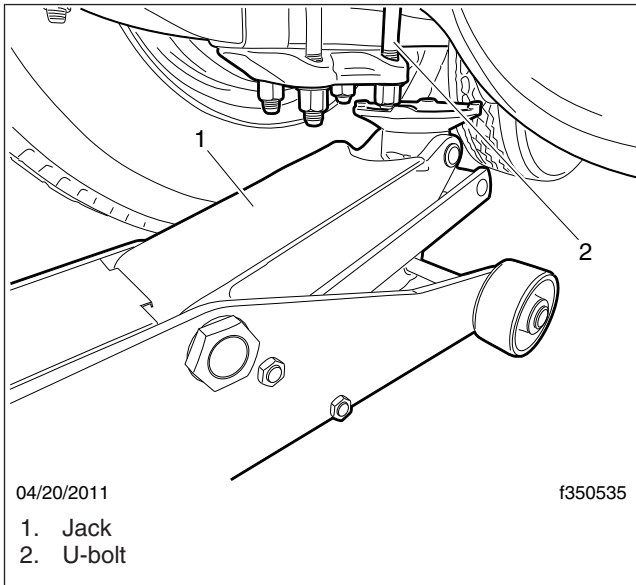
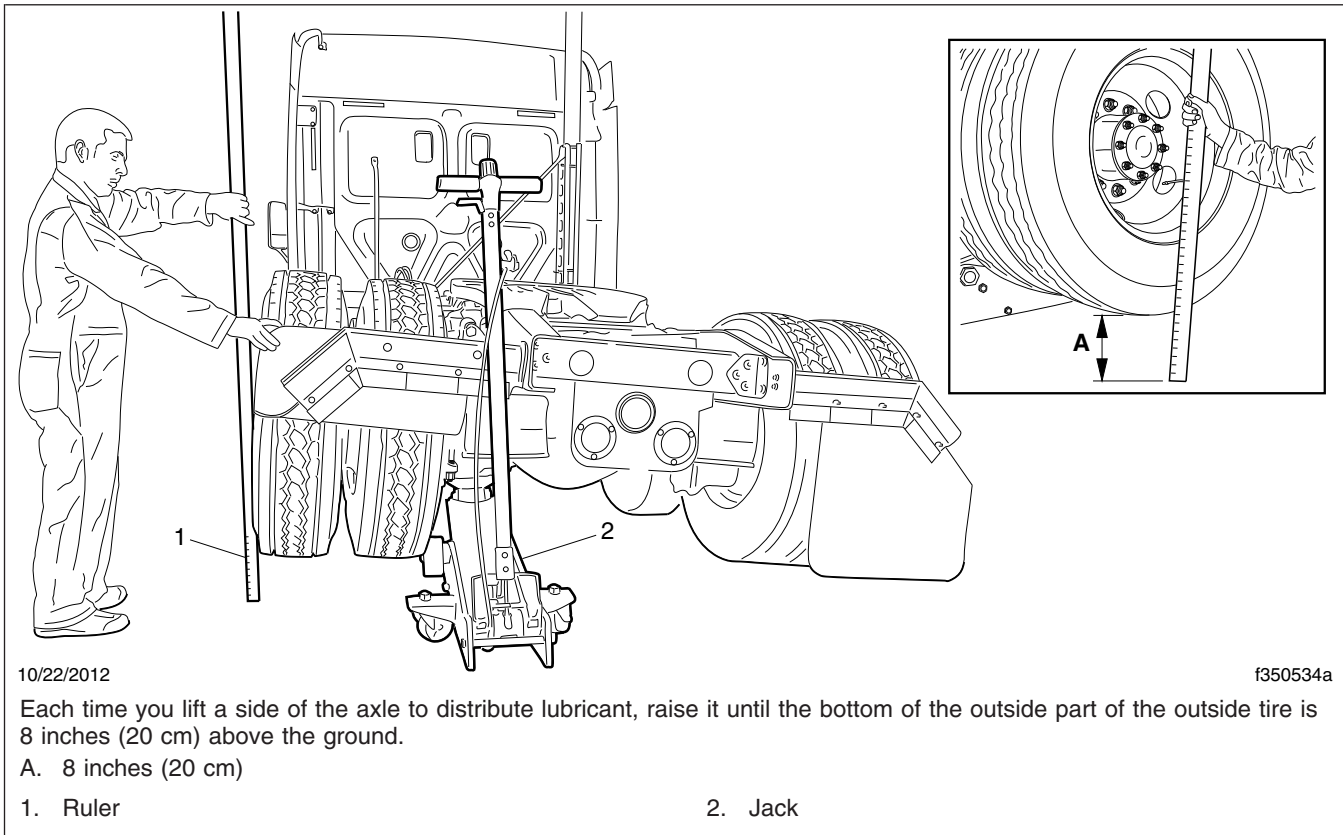

Fig. 7, Axle Lifted at Leaf Spring U-bolt
Fig. 8, Distributing Lubricant from Carrier Housing to Wheel Bearings for ConMet Hubs without Oil Fill Ports
4. To tilt the axle, position a suitable jack at a leaf spring U-bolt, and raise it until the bottom of the outside part of the outside tire is 8 inches (20 cm) above the ground. See Fig. 7 and Fig. 8.